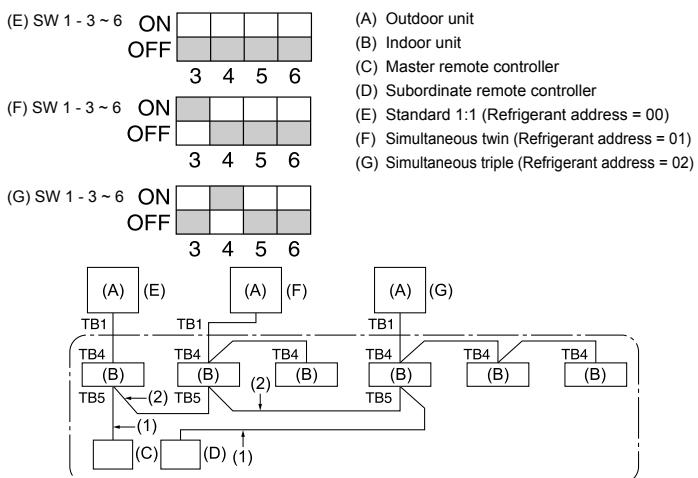

Fig. 10-1
(1) Supply power (circuit breaker).
(2) After the gas stop valve is closed, set the SWP switch on the control board of the outdoor unit to ON. The compressor (outdoor unit) and ventilators (indoor and outdoor units) start operating and refrigerant collecting operation begins. LED1 and LED2 on the control board of the outdoor unit are lit.
10. System control (Fig. 10-1)